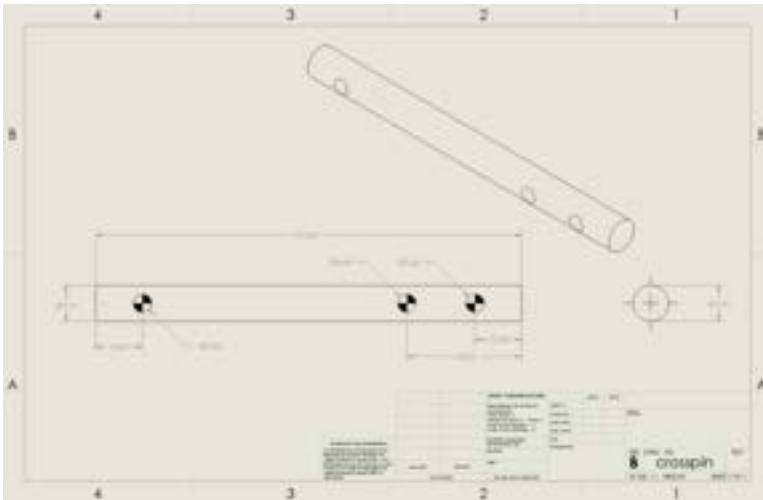

Figure 9: Crosspin drawing
- Using a 5mm bit, on the mill drill three holes in the crosspin in the locations illustrated in figure 9.